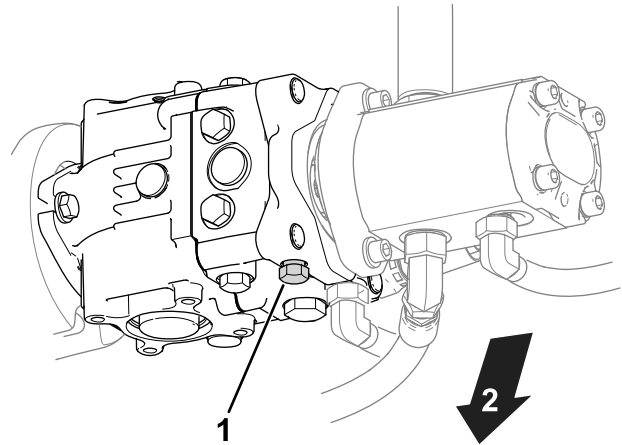

Figure 26
1. Locate the bypass valve on the pump (Figure 26).